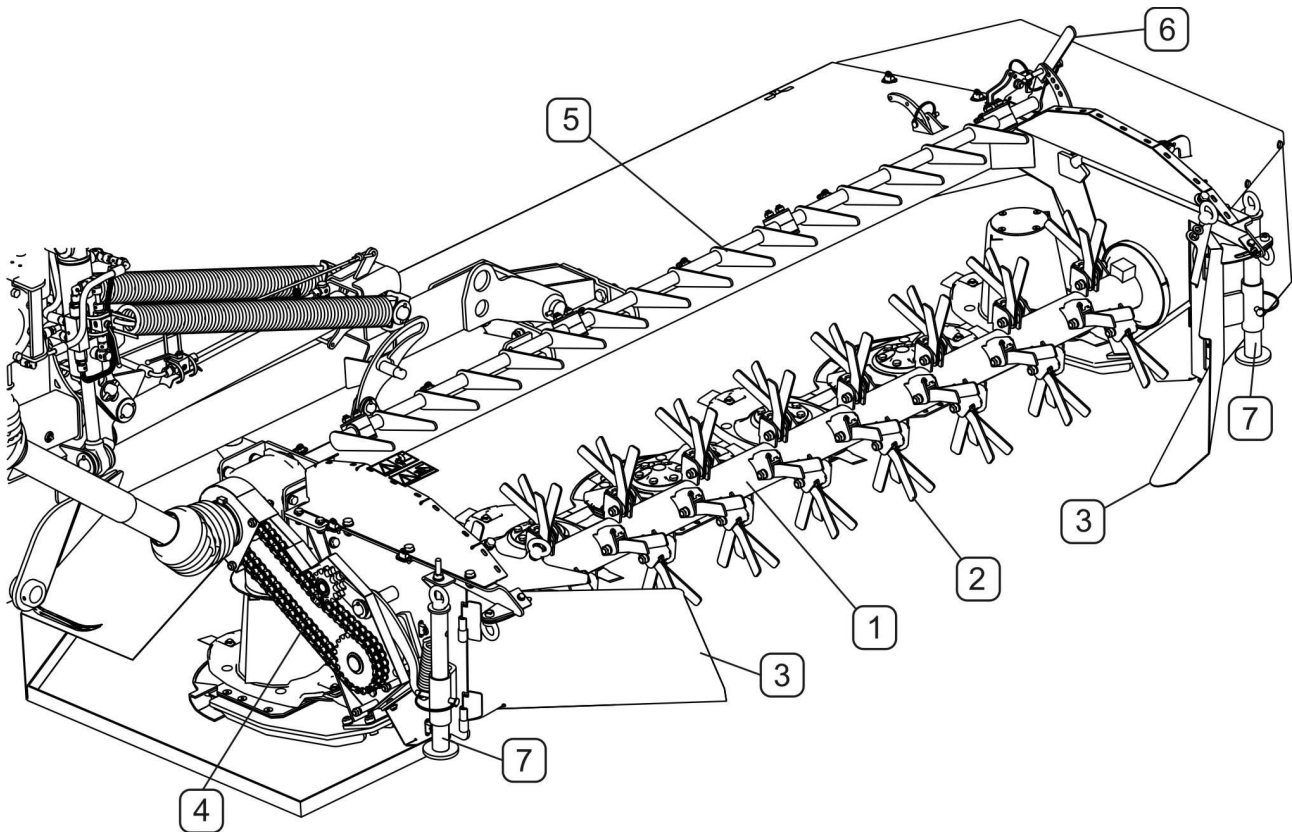

FIG. 3.6A **Conditioning assembly**
- Reversing the tractor bring the lower three point linkage connection points (A) of the tractor close to pins (1) of the mower.
- Set connection arms (A) of tractor at appropriate height.
- Connect lower pins (1) with linkage arms (A) and lock with the aid of linchpins,
- Connect top link (B) of tractor with pin (2) mower and lock with linchpin.
- Raise the support (3) (FIG. 4.14A) and the supports (7) (RYSUNEK 3.6A) of the conditioning assembly (PDT290C) and secure with a linchpin